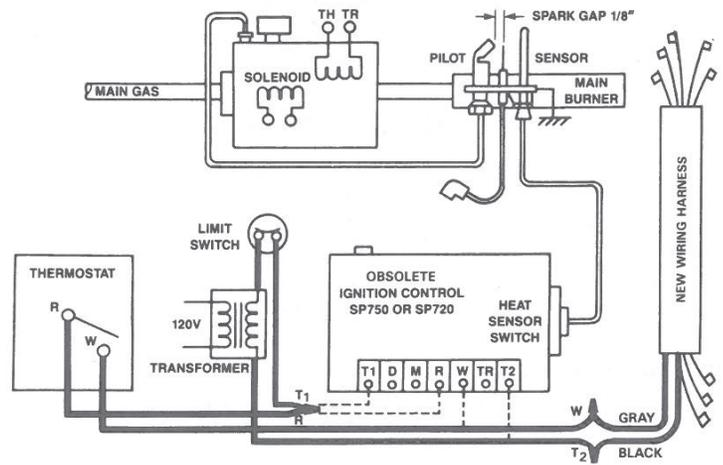

FIGURE 2
5. At the ignition control unit, disconnect the wires from terminals T1 and R. Cut the connectors from these wires and wire-nut these two wires together. (Figure 2.)